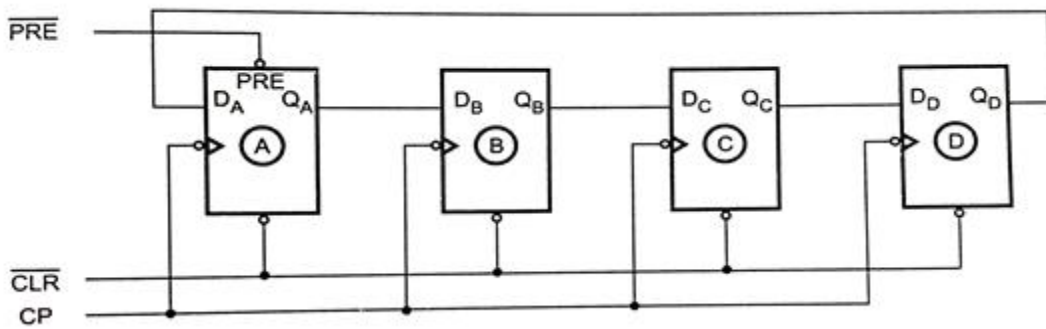

Figure 3.38: Four-bit ring counter
- The figure 3.38 shows the logic diagram for four-bit ring counter.